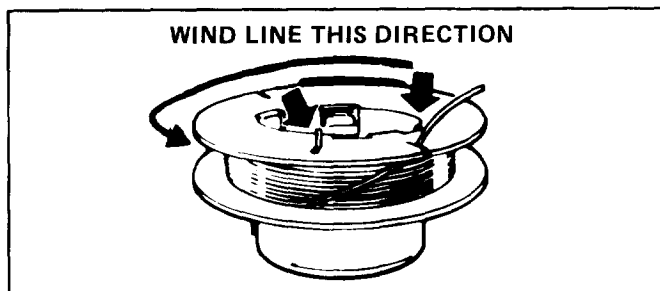

Figure 10
A. Hook end of line into the keyhole slot on spool. Wind line around spool in level rows between spool flanges in the direction shown in Figure 10.
- C. Keep line tight on spool by securing in remaining spool notch (Fig. 10). Leave about 4 inches of line extended beyond the notch.